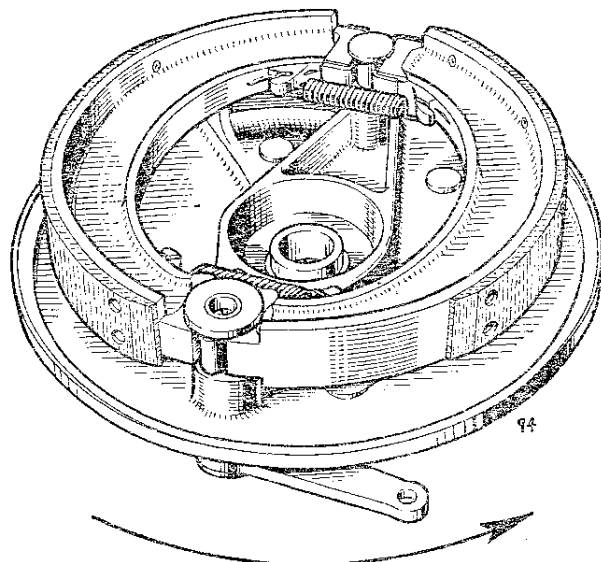

Fig. F4. Correct assembly of brake shoes onto front anchor plate. Arrow indicates direction of rotation
**Note:** When replacing the brake shoes, note that the leading and trailing brake shoes are not interchangeable in either the front or rear brake and ensure that they are in their correct relative positions as shown in Fig. F4.